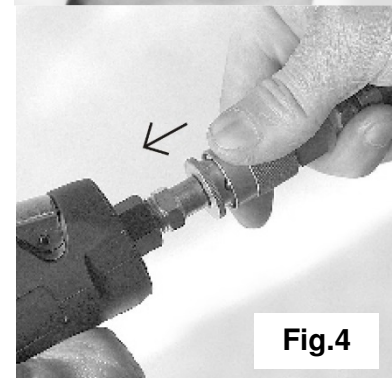

Fig.4
- 1.5. Remove the air cap from the tool air inlet and connect the air supply hose to the tool. Set the air pressure at 90 PSI. (Fig.4)